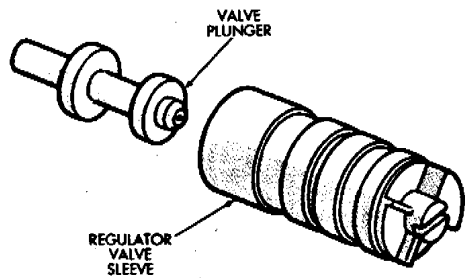

Fig. 8 Removing/Installing Regulator Valve Plunger
- (6) Install primary regulator valve plunger in valve sleeve (Fig. 8).
- (7) Install valve spring and regulator valve sleeve and plunger.